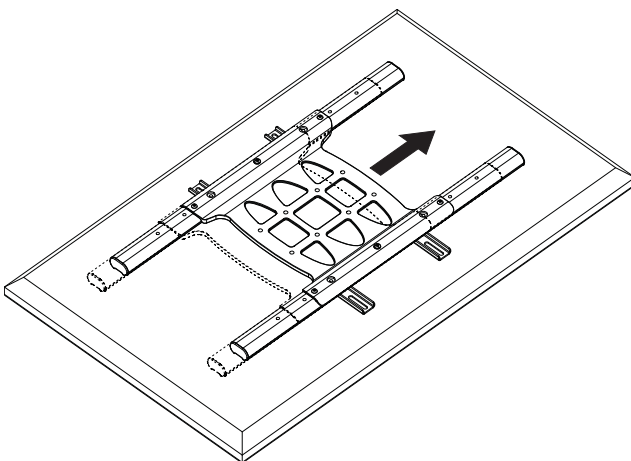

fig. 4.3
**4-4** Center screen brackets horizontally on back of screen as shown in figure 4.3.